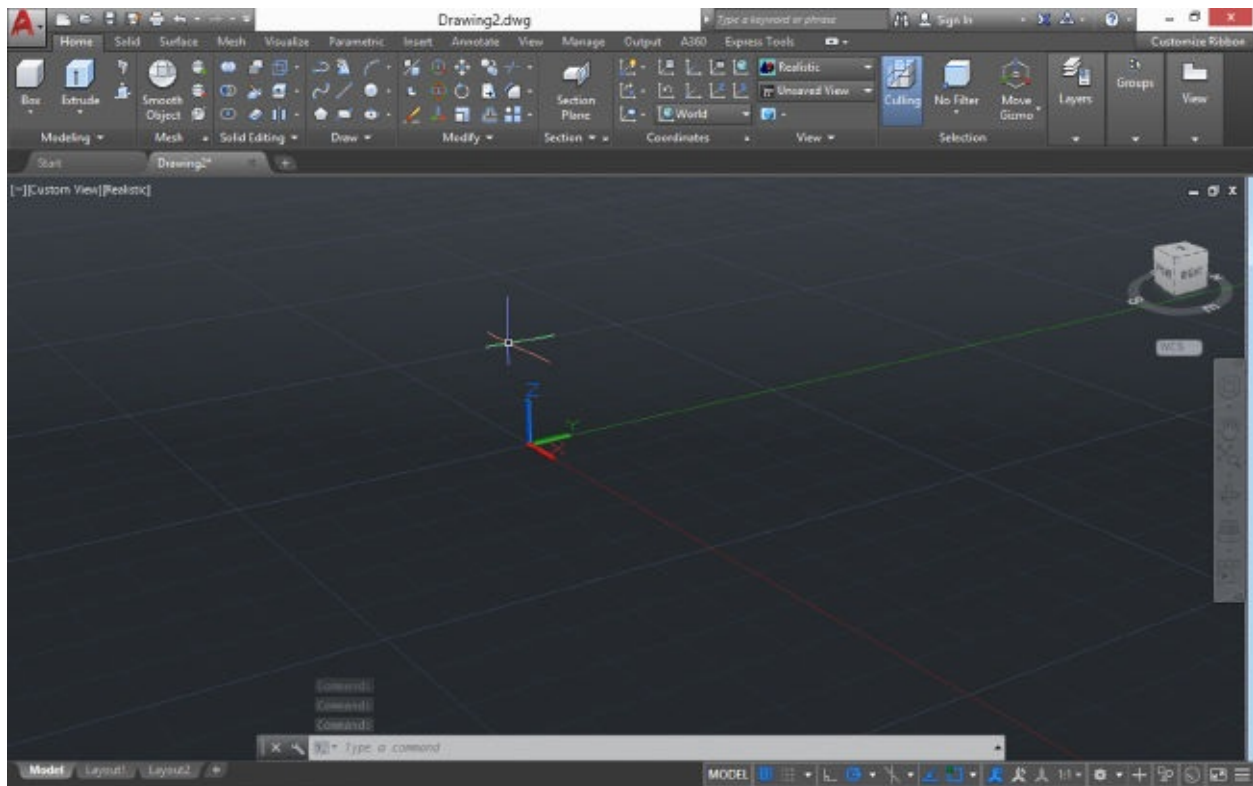

FIGURE 20.2 The AutoCAD 3D Modeling workspace
2. Click the Workspace Switching tool in the status bar at the bottom of the screen, and select 3D Modeling. You'll see a new set of panels appear. Your screen will look similar to Figure 20.2.